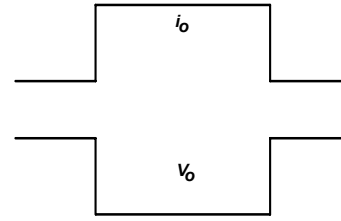
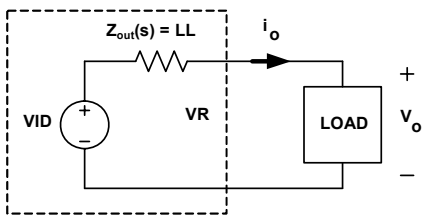

FIGURE 18. DESIRED LOAD TRANSIENT RESPONSE WAVEFORMS
FIGURE 24. VOLTAGE REGULATOR EQUIVALENT CIRCUIT
Assuming the compensator design is correct, Figure 18 shows the expected load transient response waveforms if C_n is correctly selected. When the load current I_{core} has a square change, the output voltage V_{core} also has a square response.
Figure 18 shows the desired load transient response waveforms. Figure 24 shows the equivalent circuit of a voltage regulator (VR) with the droop function. A VR is equivalent to a voltage source ($= V_{ID}$) and output impedance $Z_{out}(s)$. If $Z_{out}(s)$ is equal to the load line slope LL, i.e. constant output impedance, in the entire frequency range, V_o will have square response when I_o has a square change.